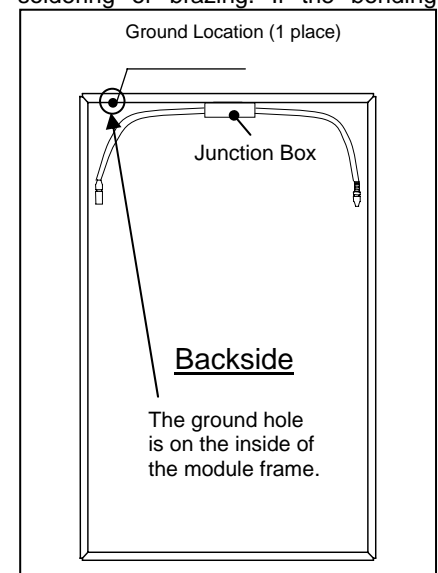
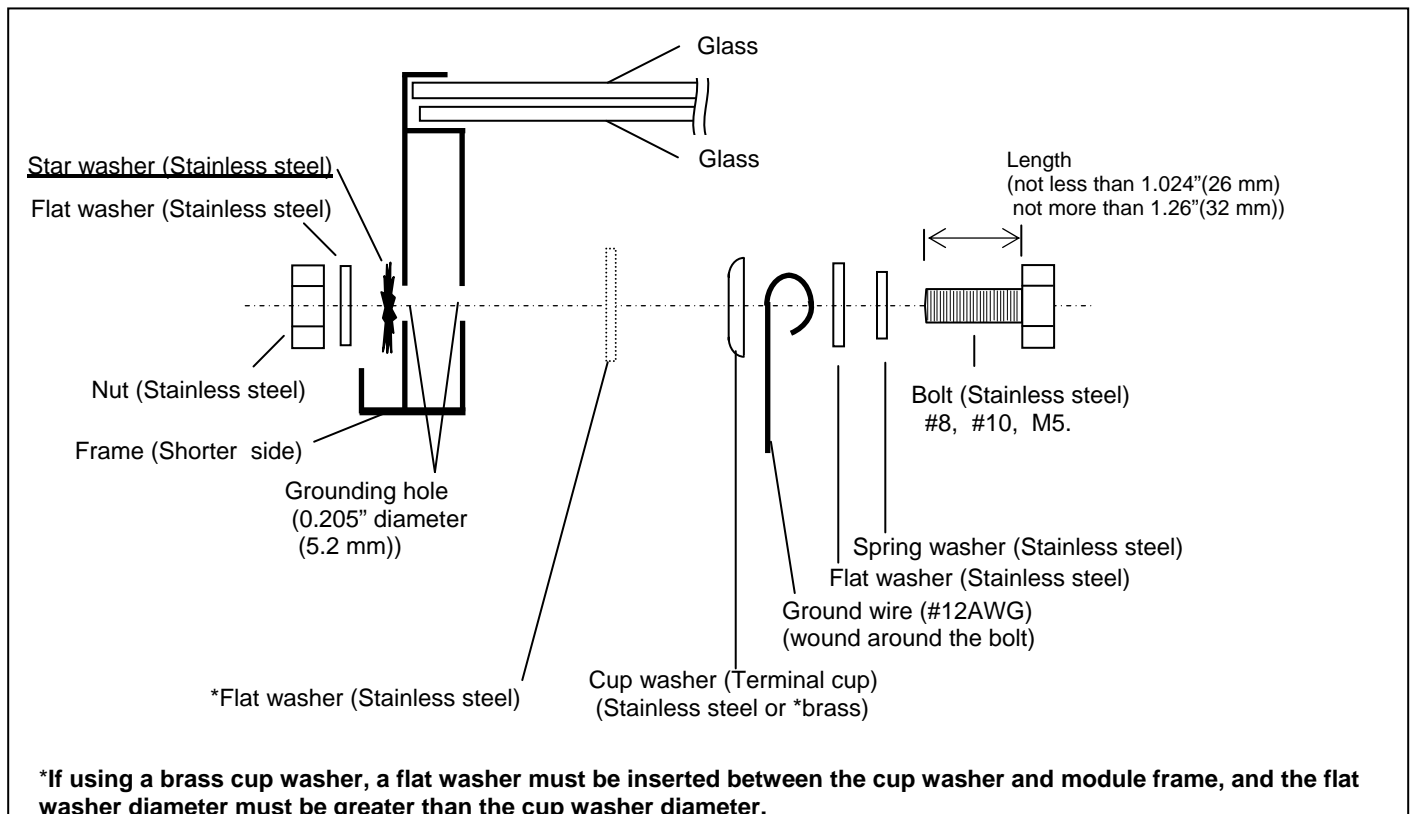

Figure 2. Module Ground Position
Figure 4.1
- All the washers illustrated in Figure 4.1 are required as part of the grounding connection.
- Each framed module has a hole for a bolt (0.205" diameter (5.2 mm)). This ground hole is marked with a "G" adjacent to the location on the frame rail (see Figure 2). Ground wires must be connected to the module's metal frame at this location.
Wire connection using cup washers (see Figures 4.1)
- Use a bolt and nut (see Figures 2 Figures 4.1)
Use a bolt and nut (see Figures 2 and 4.2)
- As shown in figure2, place the grounding clip onto the module frame.